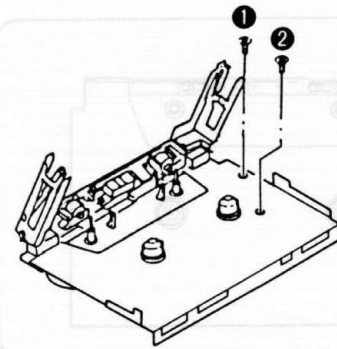

Fig. 1
Remove the head block ass'y, motor and belt from the mechanism to be replaced and replace those parts to the new mechanism block. (Refer to Fig. 1 and 2.)
2. Remove the 2 screws (❶, ❷). (Refer to Fig. 1.)